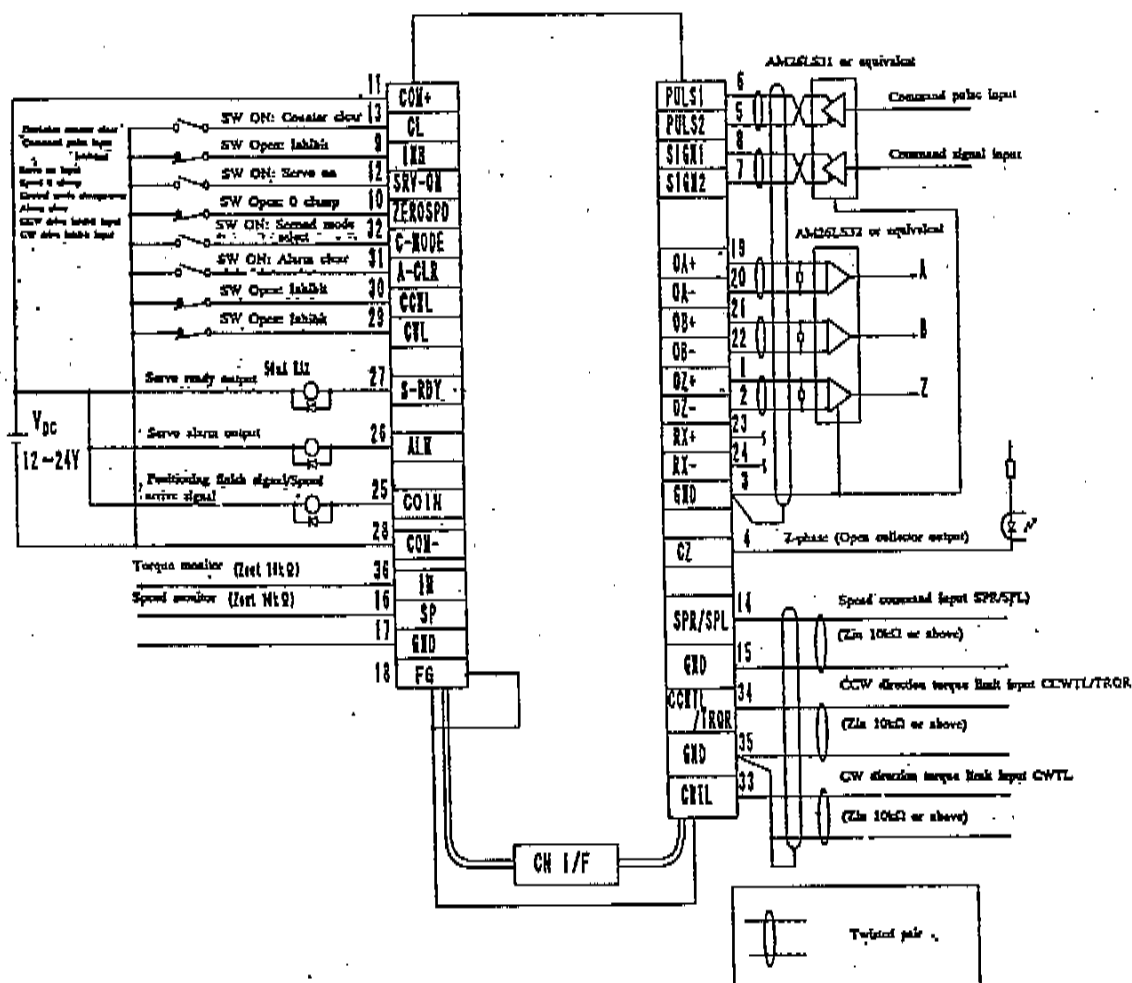

Fig. 5-2 Example of wiring to connector CN I/F
- (1) Please make wiring per Fig. 5-2, "Wiring example to connector, CN I/F". As for the pin arrangement of CN I/F, refer to 13-1 [Connector kit for connecting external equipment] (Page 61).
- (2) Please prepare a power supply for a control signal with DC12-24V, used for external control connected between COM + and COM -.
- (3) Please shorten the wiring of the driver and other equipment as much as possible (3 m or shorter).
- (4) Please separate this wiring from the power lines (R, S, T, U, V, W, \oplus), as much as possible (30 cm or more). Please avoid passing both wires into the same duct or binding them together. It may cause malfunction.
- (5) Please do not apply more than DC 24V or 50mA, to each terminal of the control output (S-RDY, ALM, COIN), or avoid applying reverse polarity. This may cause damage to the driver.
- (6) If you directly drive a relay with the control output terminals, please install a diode in parallel with the relay as Fig. 5-2 shows. If you do not install a diode, or install it in reverse direction, this may cause damage to the driver.
- (7) As per Fig. 5-2, please use shielded, twisted pair wires for a signal line of CN I/F (analog command input, command pulse input, feed-back pulse output of the encoder etc.). Please ground the shield to the signal ground (GND) of the driver. (Though the shield of other equipment normally open, in case affected by extreme noise, connect shield of both driver and other equipment to frame ground.)
- (8) Frame ground terminal (FG) is connected with the earth terminal (\oplus) in the driver.